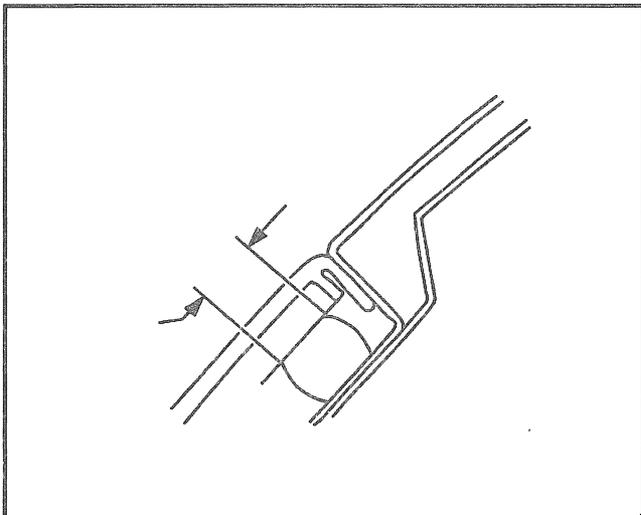

Figure 21—Rear Window Primer Width
2. Clear primer to the window covering an area of 18 mm (3/4 inch) from the edge of the glass (Figure 21).